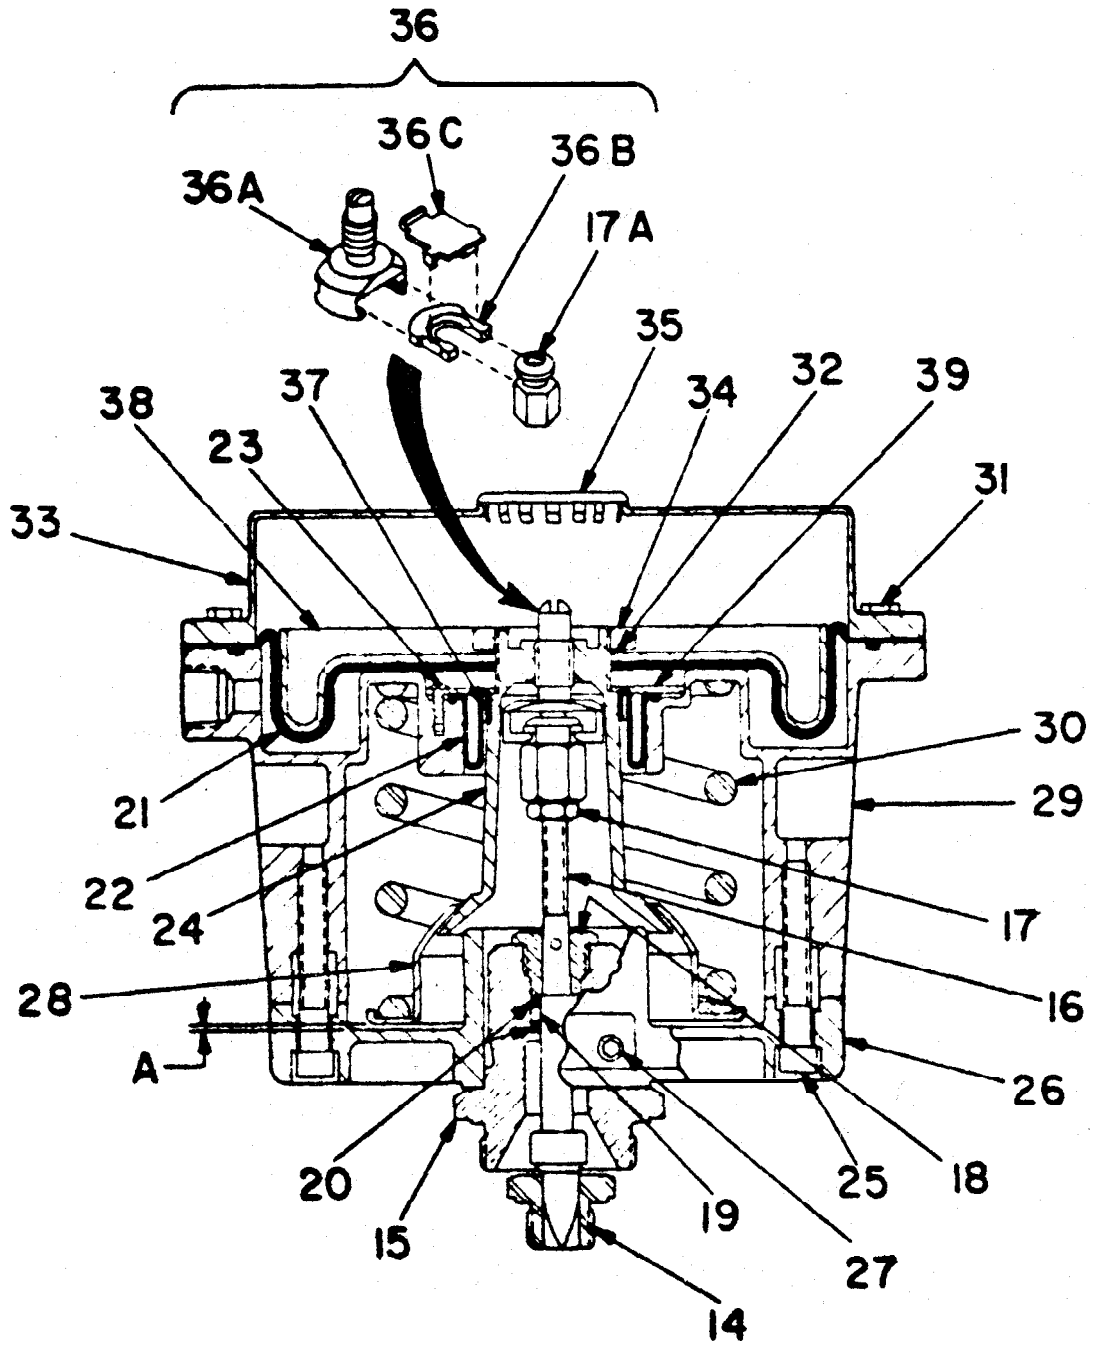
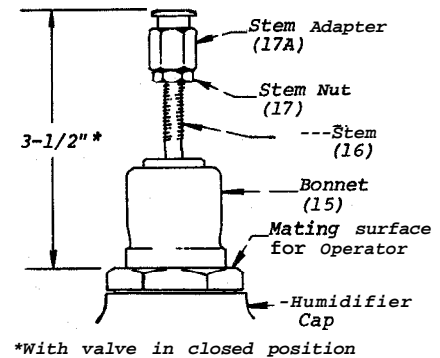

Figure 1.
Figure 2.
Many repair procedures require that the operator be removed from the bonnet assembly. To remove the operator, perform the following steps. Refer to Figure 1 (see back cover) to locate the parts by item numbers.
(See Figure 1 on back cover.)
1. Press down the valve stem (16) so that the valve is completely closed.
2. If the stem nut (17) and stem adapter (17A) were not removed during repairs, check the adjustment shown in Figure 2. Adjust as required. If the stem nut (17) and stem adapter (17A) were removed during repairs, turn them onto the stem and adjust as shown in Figure 2.
3. Assemble the yoke assembly (36) and stem adapter (17A) in the following manner.
- a) Hold the bearing (36B) in the orientation shown in Figure 1 (flat side down, depression up). Slide the bearing into the groove of the stem adapter (17A).
- c) Slide the yoke (36A) over the spring (36C), bearing (36B), and stem adapter (17A) until the short tabs of the spring snap into place on both sides of the yoke. Center the yoke over the stem (16).
4. Place the operator over the yoke assembly (36) and lower the operator onto the bonnet (15).
5. Hold the operator to prevent it from turning. Insert a screwdriver into the slot in the top of the yoke (36) and turn counterclockwise until the operator base (26) contacts the mating surface of the bonnet (15).
6. Tighten the two set screws (27).
7. Load the stem by turning the yoke (36) clockwise until the spring cup (28) is from 1/16 to 1/8 inch above the operator base (26). (Dimension "A" in Figure 1).
- a. Install the operator plug (35) in the top of the MP-9530 or close the access plate on the top of the MP-953B or MP-953F.